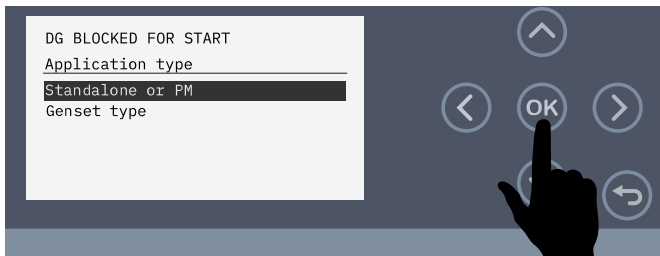

Figure 88. Select Standalone Or PM
5. Make sure **Standalone or PM** is highlighted (Figure 88), then press the OK button.